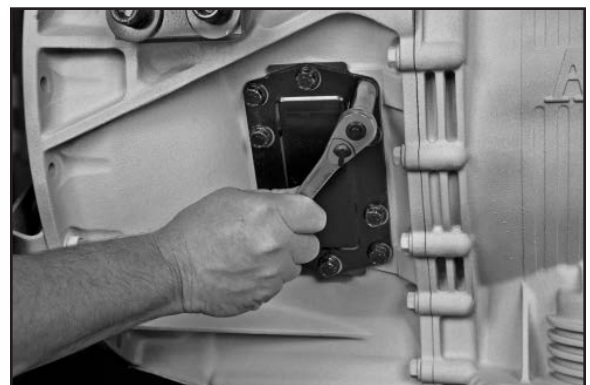

Figure 15
2. Remove the PTO aperture plate with a 15 mm socket (**Fig. 15**).